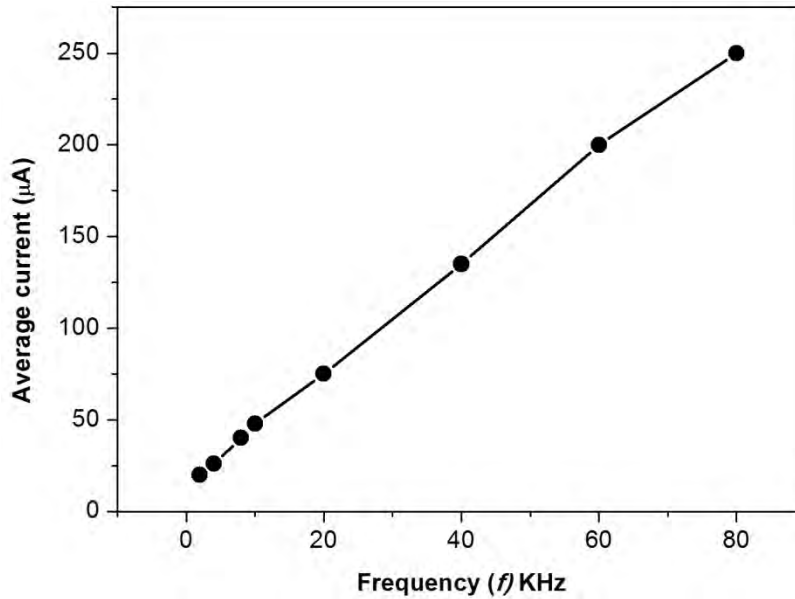

Figure 11: Plot between average current and frequency.
- b. Average current as a function of frequency of rectangular wave is plotted in figure 11.